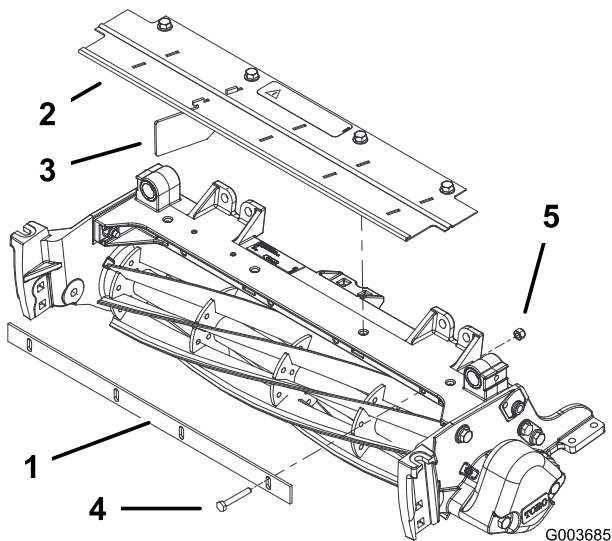

Figure 5
1. Loosely mount the cut-off bar to the cutting unit frame with 4 bolts (1/4 x 1-3/4 inches) and 4 locknuts (1/4 inch) (Figure 5).
3. Tighten the bolts and locknuts (Figure 5).
1. Remove the 4 flange-head bolts securing the front grass-shield to the cutting-unit frame (Figure 5). Remove the grass shield.
2. Remove 4 deflectors from the shield leaving only the 1 shown in Figure 5.